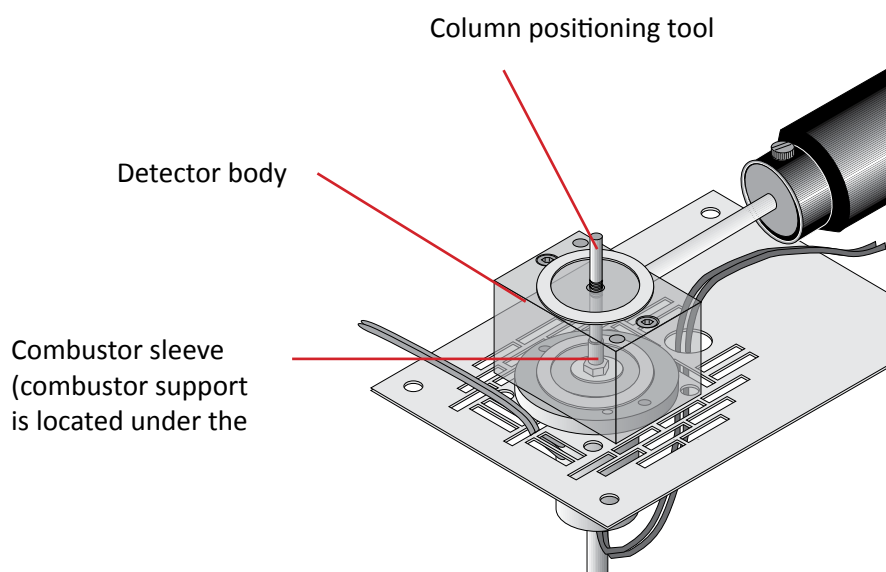

Figure 3.39. Placing the Column Positioning Tool into the Detector Body
7. Using a laboratory tissue, **gently** insert the column positioning tool into the detector body (Figure 3.39). The column positioning tool rests on top of the combustor support.